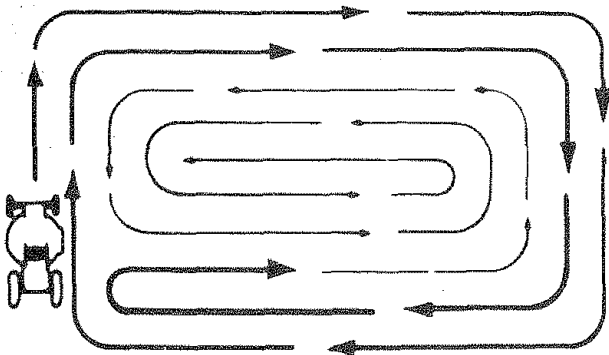

FIGURE 17
- c. When mowing large areas (Fig. 17), start by turning to the right so that the clippings will discharge away from shrubs, fences, driveways, etc. After one or two rounds, mow in the opposite direction making left hand turns until finished.